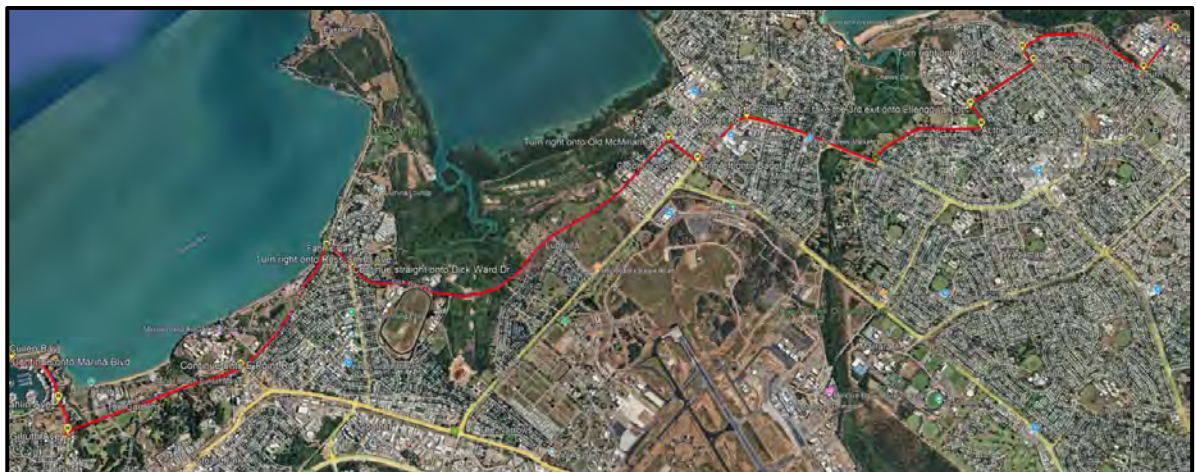

Figure 03 - Fastest route from Cullen Bay Facilities to Royal Darwin Hospital
- If an ambulance has been called, alert the EC of details and which hospital the injured person was taken to. The closest Hospital to the Cullen Bay facilities is Royal Darwin Hospital - 105 Rocklands Dr, Tiwi NT 0810. (Refer to Figure 03 and see more details in attachment 01).